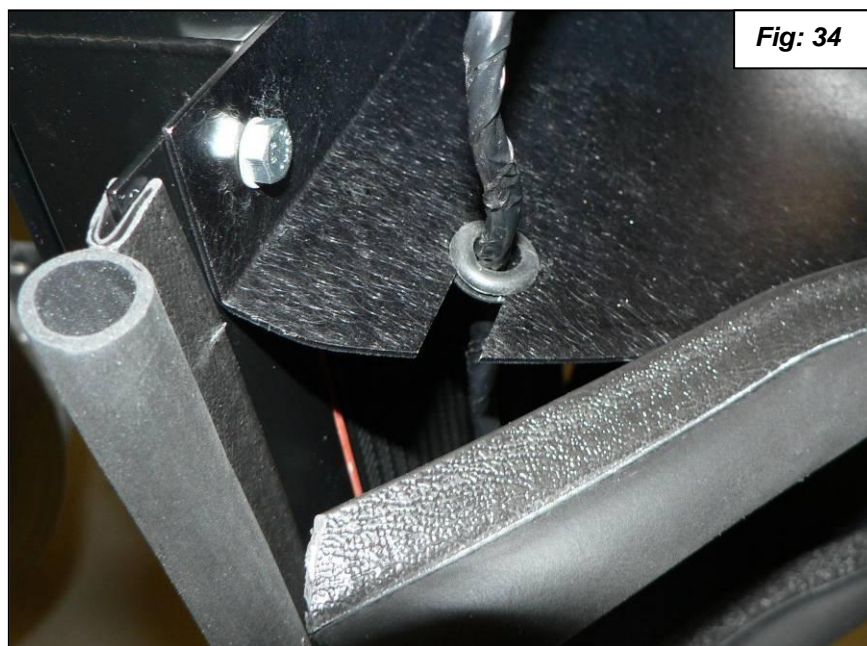

**Fig: 31**
39. When you pull the cooler into the position it will be with the bumper attached the clearance should be flush. See **figure 31**.